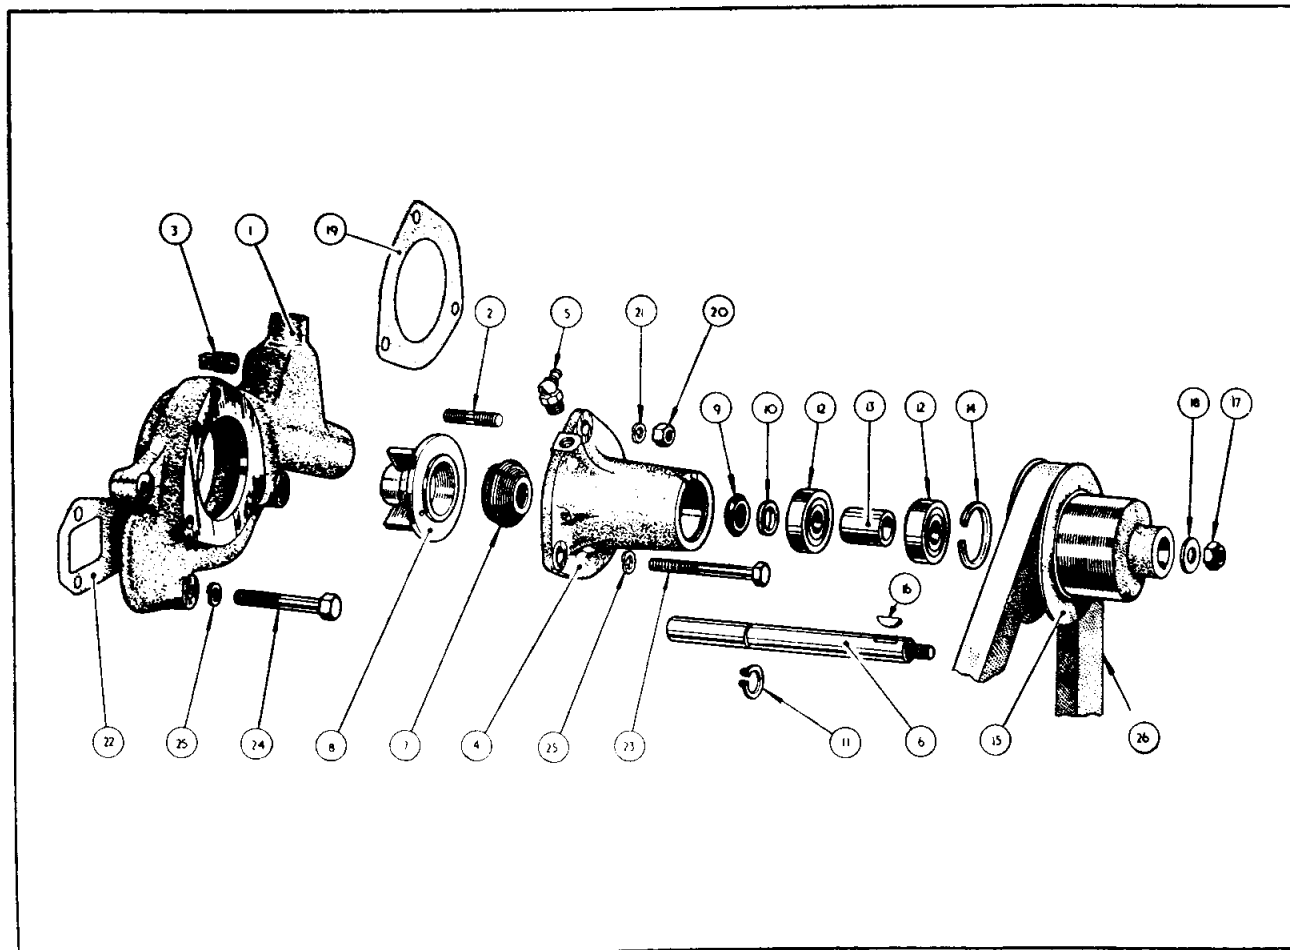

Fig. 7
16. THE WATER PUMP ASSEMBLY (Fig. 7)
17. TO REMOVE THE WATER PUMP BEARING HOUSING (Fig. 7)
NOTATION FOR WATER PUMP HOUSING ASSEMBLY (Fig. 7)